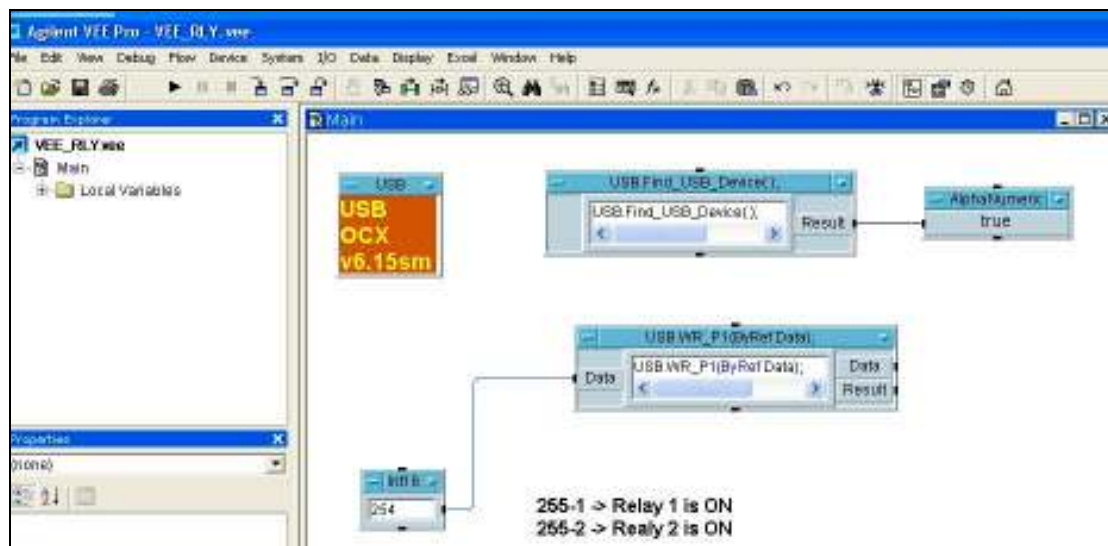

Figure 10.
12. An "Int16" form will appear on your main development form. Connect "Int16" to the input "Data" of the "USB.WR_P1" form. Now you can send data from the "Int16" box to the method which writes data to Port P1. You can set lines on/off on Port P1. See Figure 10 below.